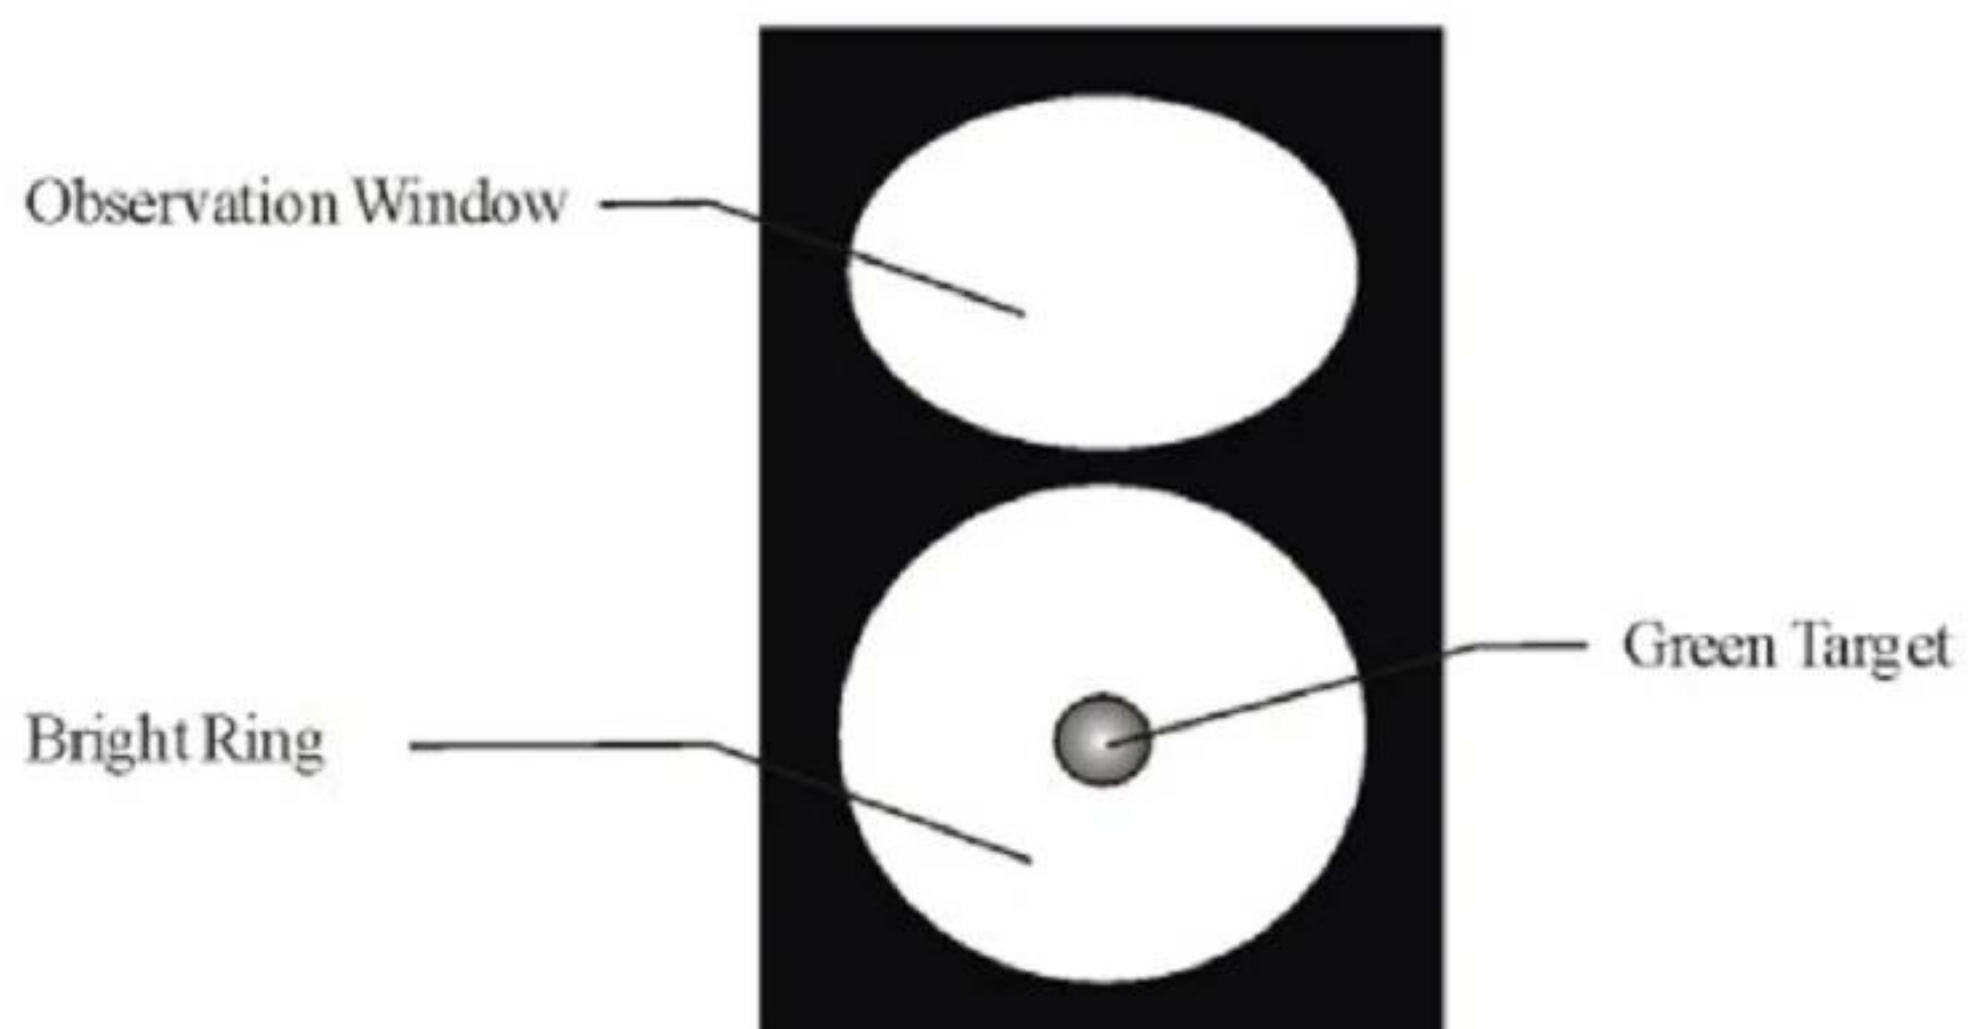

Fig.5
3.4 Viewed from the Observation Window (as shown in Fig.5)